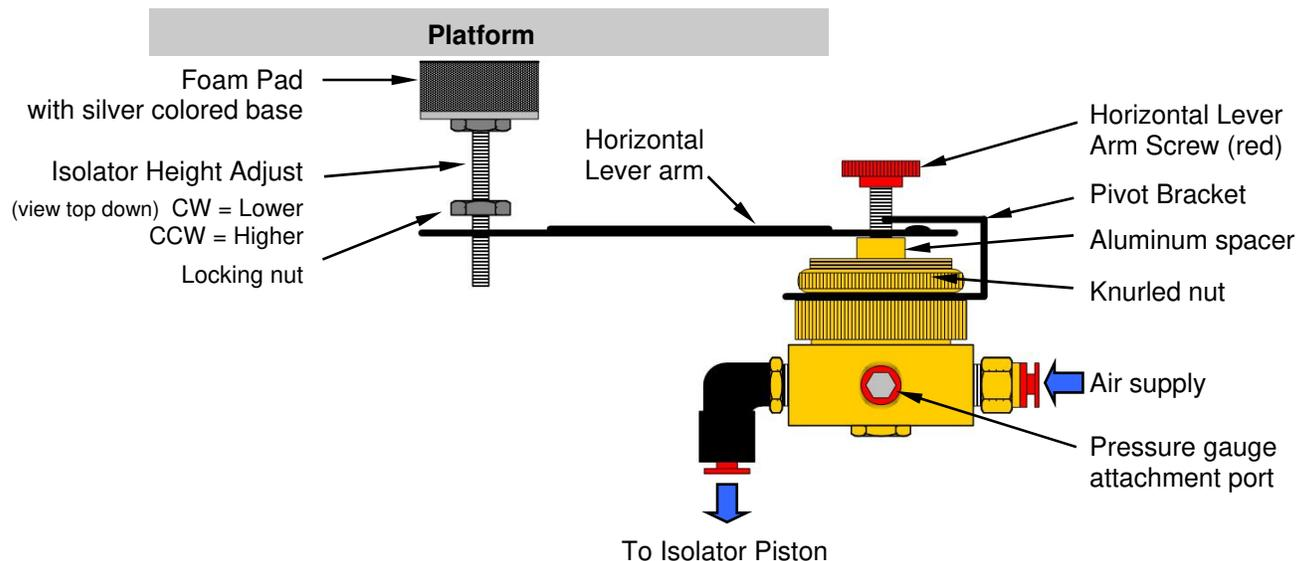

Figure 8 Height Control Valve
Step 26 Tighten *locking nut* on all three **ISOLATOR HEIGHT ADJUSTS** as shown in figure 8 above, *Height Control Valve*.